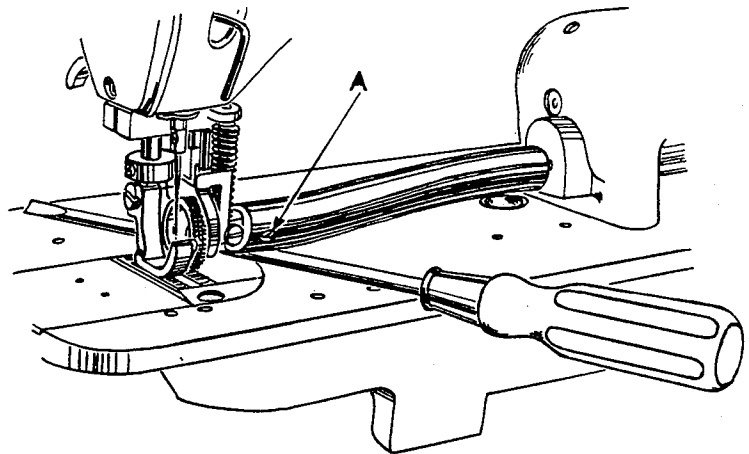

Fig. 25
1. The top feed roller on Styles 61400 N and 61400 R, which are equipped with the roller to the right of the needle bar, should be set as close to the presser foot as possible without contacting. Loosen screw (A, Fig. 25) which holds the shank of the roller. Lift the presser foot off the throat plate by means of the hand lifter and move the top roller. Re-tighten screw. On Styles 61400 P and 61400 S, which have the feed roller behind the needle bar, set the roller so that its slot is directly in line with the needle.
6. Set the main feed to produce the required length of stitch in the same manner as previously described. When checking the length of stitch produced by the main feed place a screw driver or similar object under the top feed shaft and raise the feed roller (Fig. 25) so that the actual stitch length of the main feed can be observed.